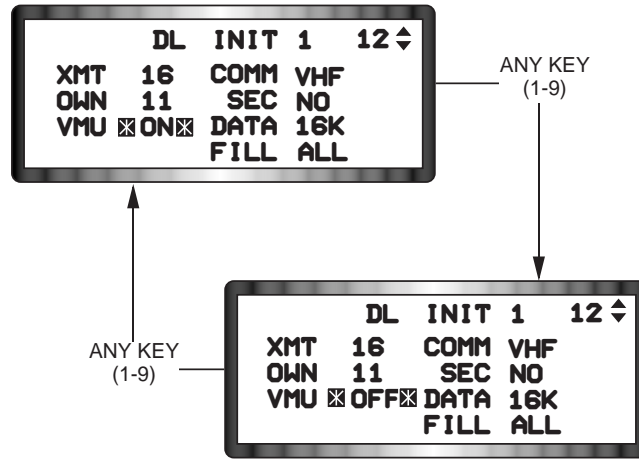

Figure 1-63 VMU Selection
Voice Message Unit (VMU). The Voice Message Unit (VMU) field on the DL INIT 1 page turns the aural cue associated with a data link message reception on or off (See Figure 1-63). When the VMU field selection is ON, the word "DATA" is heard in the headset upon receipt of an air-to-air target assignment, an A-G intraflight message, or a text message. When the VMU field is selected OFF, no voice messages are generated upon message receipt. The VMU data link aural cue is toggled on or off by positioning the asterisks around the VMU field and depressing any key 1-9 on the ICP. NOTE: If the FILL option on the DL INIT 1 page is "NONE", the VMU cannot be activated when a message is received even though the VMU selection is ON because the avionics system does not store the received data link messages.